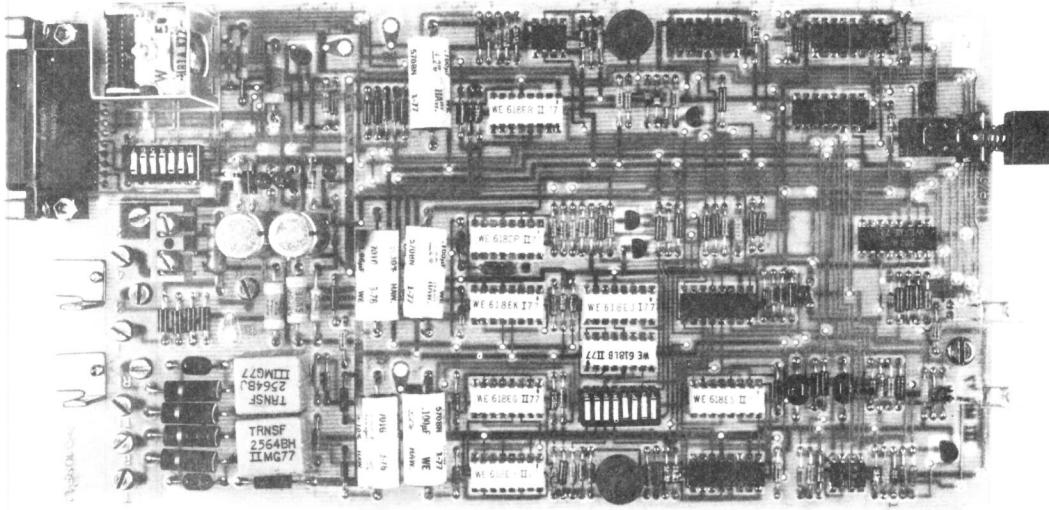
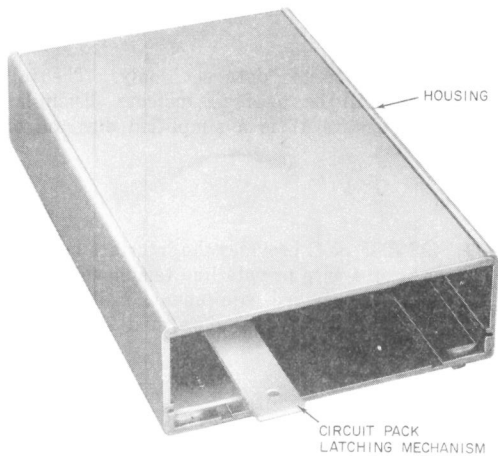

Fig. 3—Circuit Pack of DS 108F (Similar to DS 108G Circuit Pack)
Fig. 4—DS 108F or G Housing
**2.03** The housing is externally similar in appearance to the 47-type data mounting. The housing assembly consists of an aluminum extrusion which provides card guides for mounting the circuit pack (Fig. 3) and front and rear covers. No interface assembly or electrical connections are provided. All connectors are mounted directly on the circuit pack. The circuit pack is held in position by the latching mechanism shown in Fig. 4.